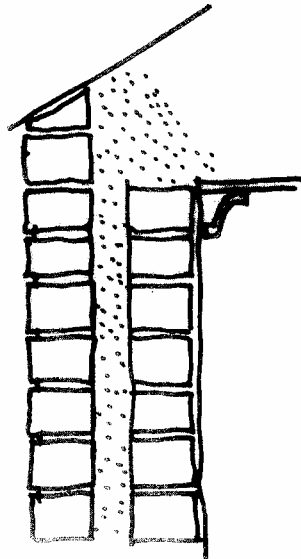

Figure 10.13 – Surplus heap to compensate sagging
- ❖ Form a surplus heap of insulation at the top of the cavity to compensate for sagging. *Fig10.13*